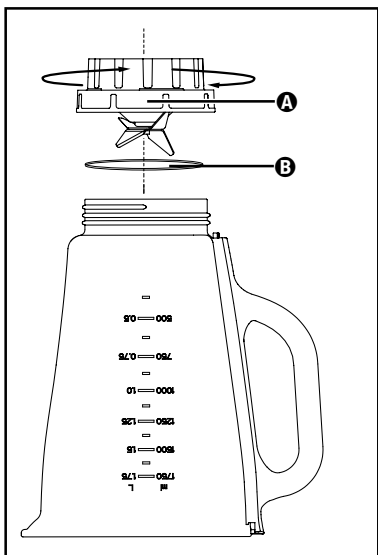

Fig. 3
2) Turn the appliance upside down and turn the attachment **A** with the cutting blades **4** anticlockwise so that it can be detached from the blender jug **3** (see fig. 3).